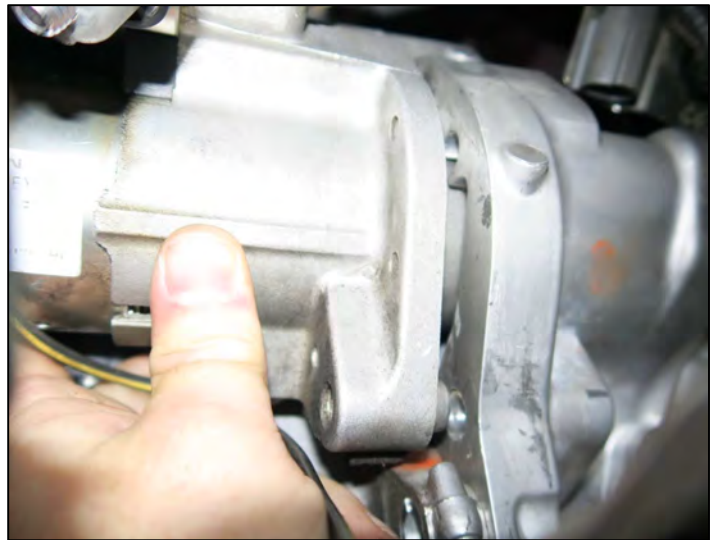

Figure 90
90. Move the starter motor into position in the transmission housing, making sure to align the starter motor dowls with the bolt holes in the transmission case. (Figure 90)
- Torque the (2) starter motor bolts to 48 N•m(4.9 kg-m, **35 ft-lbs**)